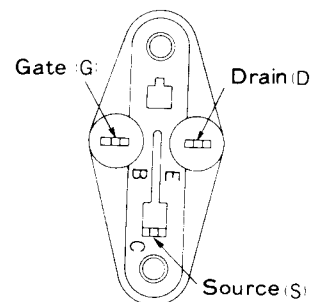

Fig. 7
- (1) When the stabilized power circuit and the peripheral parts of Q701 and Q702 (D701, R703, R709 and their peripheral parts) are replaced, the adjustment of the input/output DC may drift, so be sure to check the input/output DC voltage.
- (2) The output stage of this unit is a parallel push-pull amplifier. The power MOS FETs (FET 751L,R – 754L,R) are ㉔ or ㉕ grade service parts. Be sure to match the upper (FET 751L, R, 752L, R) or lower (FET 753L, R, 754L, R) FETs to the same grade for each channel, when replacing the power MOS FETs.
- (3) Since the socket for transistor use is used for the socket of the POWER MOS FET, polarity is indicated as B, C, E. Match it to the indications shown in Fig. 7 when replacing the POWER MOS FET and when checking.